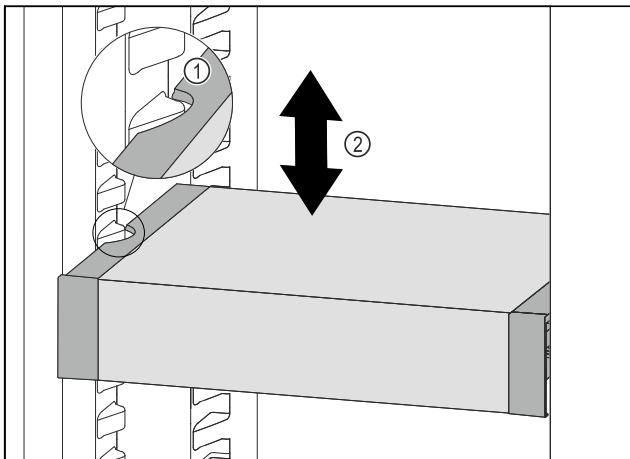

Fig. 111
- ▶ Pull VarioSafe forwards until the recesses in the side of the VarioSafe are at the level of the support rib in the refrigerator compartment. Fig. 111 (1)
- ▶ Move VarioSafe up or down in the refrigerator compartment until the desired height is reached. Fig. 111 (2)